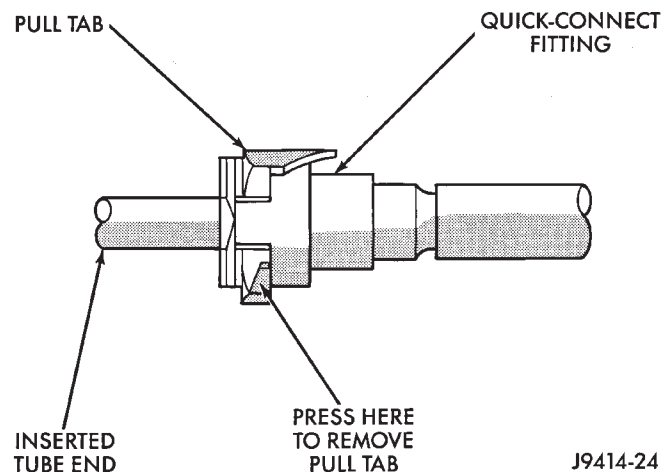

Fig. 15 Single-Tab Type Fitting
This type of fitting is equipped with a single pull tab (Fig. 15). The tab is removable. After the tab is removed, the quick-connect fitting can be separated from the fuel system component.
(1) Disconnect negative battery cable from battery.
(2) Perform the fuel pressure release procedure. Refer to the Fuel Pressure Release Procedure in this section.
(3) Clean the fitting of any foreign material before disassembly.
(4) Press the release tab on the side of fitting to release pull tab (Fig. 15).